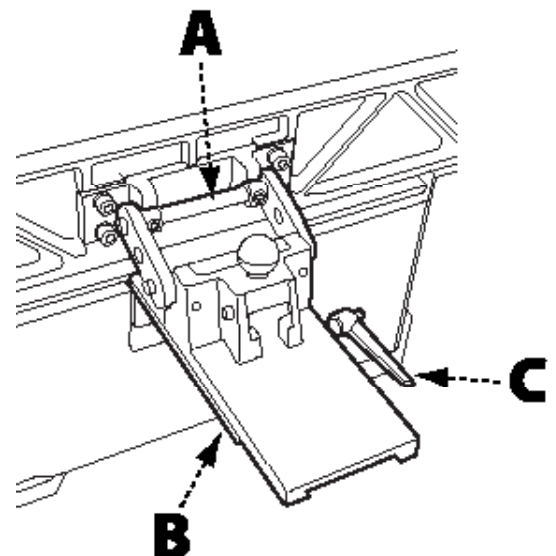

FIGURE 4
4. Slide assembled fence (A) over the fence support bracket (B). The left edge of the fence assembly should be aligned with the left edge of the bracket. The dovetail edge on the right side must be engaged with the dovetail clamp. Tighten the indexing lock handle to firmly secure and square the assembly. Insure that the red sliding guard moves freely and attaches to the magnets on the rear side of the fence. See Figure 4.